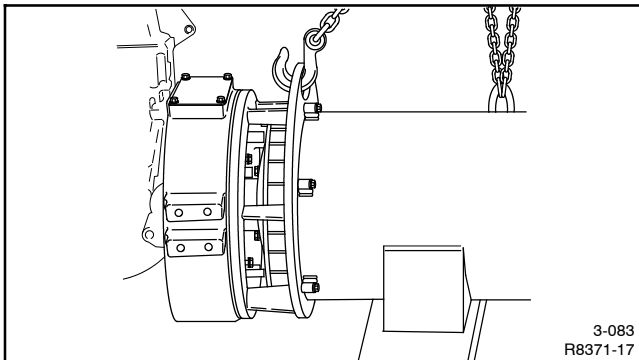

Figure 11-22 Aligning Adapter and Flywheel Housing
19. Move the alternator as necessary to align the alternator adapter and the flywheel housing. Fasten and final tighten the adapter to the flywheel housing using bolts and hardened lock washers. See Figure 11-22. Torque bolts to specifications.